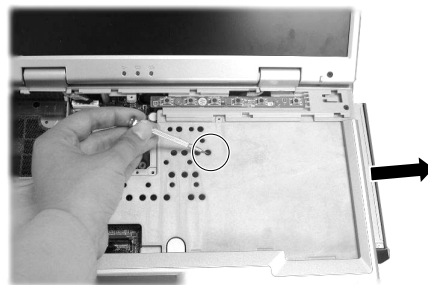

Figure 2-13 Push out the CD/DVD-ROM driver
3. Use the screwdriver to push the metal pad to the right and the CD/DVD-ROM drive will pop out. Hold the CD/DVD-ROM drive and slide it outwards carefully. (Figure 2-13)